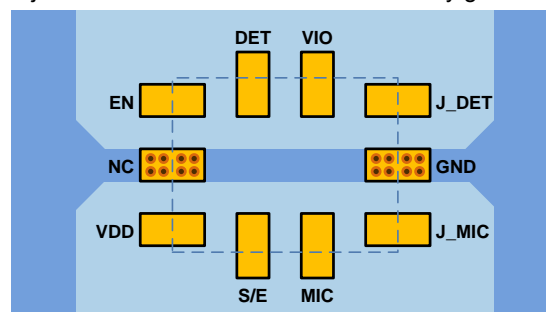

Figure 8. PCB Layout/Grounding
- Stitch ground traces to the ground plane at the device, where possible (see Figure 8).
- Flood ground, where possible (see Figure 8).